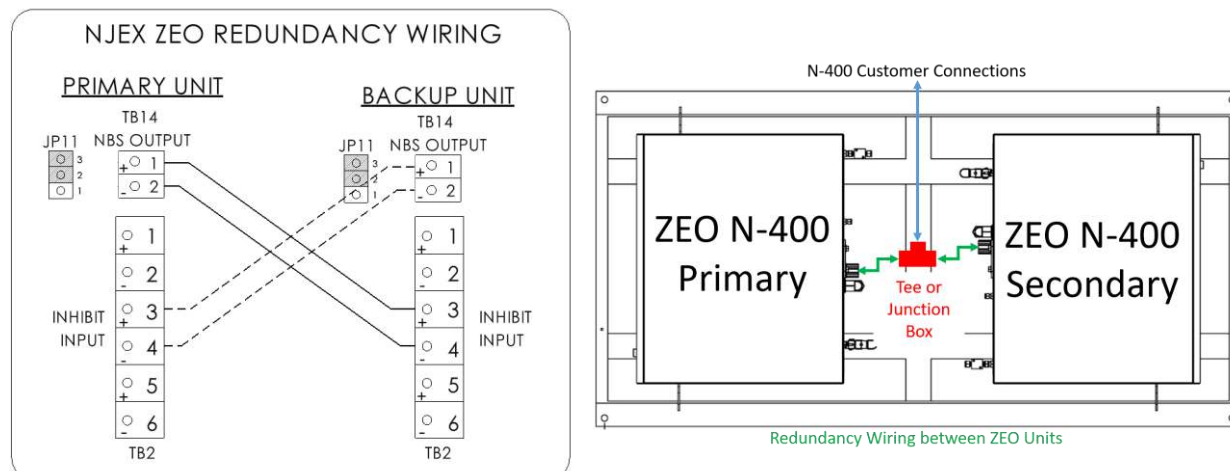
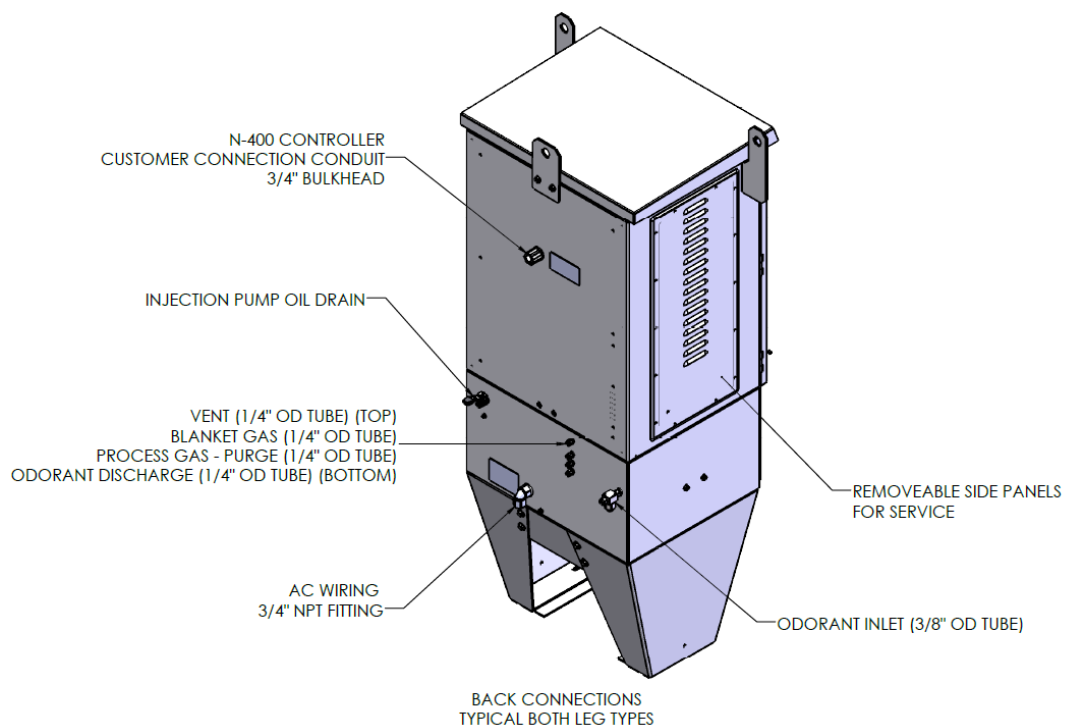

Figure 4 Redundancy Wiring Diagram
Figure 5 Class 1, Division 1 North American Cabinet Connections
3. Connect the analog flow signal device to the termination block (TB8) located in the N-400 Controller OR the pulsed flow input to the termination block (TB2). Note the jumper placement (JP4) for each analog flow signal type and adjust if necessary. If using a pulsed flow input, the jumper position (JP4) is inconsequential. Refer to the *Wiring Control Document in Appendix B* and the Wiring Diagram reference label located inside the N-400 Controller Door or below in Figure 4.
4. For cabinet only systems, connect the tank level device to the termination block (TB11) located in the N-400 Controller. For skid mount systems, the tank level device will be factory wired to the N-400 Controller. In the instance of a dual cabinet skid mounted unit, the tank level will only be wired to one controller. Note the jumper placements (JP7 and JP9) for tank level signal type and adjust if necessary. Refer to the *Wiring Control Document in Appendix B* and the Wiring Diagram reference label located inside the N-400 Controller Door or below in Figure 4.
5. If used, connect the optional Remote Inhibit Input signal to the termination block (TB2) located in the N-400 Controller. Refer to the *Wiring Control Document in Appendix B* and the Wiring Diagram reference label located inside the N-400 Controller Door or below in Figure 4.
6. If used, connect the RS-485 communication wiring as required to the termination block (TB16) located in the N-400 Controller. Refer to the *Wiring Control Document in Appendix B* and the Wiring Diagram reference label located inside the N-400 Controller Door or below in Figure 4.
7. If applicable, to wire two cabinets for redundancy, connect the NBS output termination block (TB14) of the primary system to the Inhibit Input of the backup system (TB2 Pins 3 and 4) located in the N-400 Controller. Mirror the connection from the backup to the primary system by connecting the NBS output termination block (TB14) of the backup system to the Inhibit Input of the primary system (TB2 Pins 3 and 4). Refer to the *Wiring Control Document in Appendix B*, the Wiring Diagram reference label located inside the N-400 Controller Door or below in Figure 4, and the Redundancy Wiring Diagram in Figure 5 if needed.